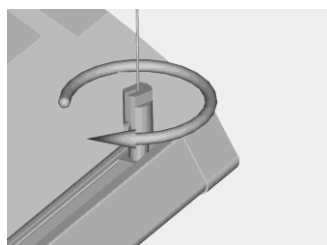

Figure 9 - *Figure 9*
- Screw up the wire locker to avoid the exit of the Y cable endings as in figure 9.